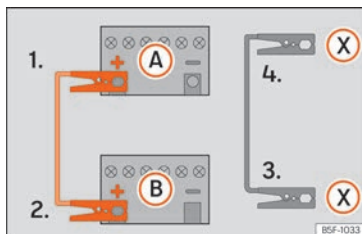

Fig. 55 Diagram of connections for vehicles with Start Stop system
- 4b. *In vehicles with a Start-stop system:* connect one end of the black jump lead (X) to a suitable ground terminal, to a solid piece of metal in the engine block, or to the engine block itself » » » Fig. 55.
5. Connect the other end of the black jump lead (X) to a solid metal component bolted to the engine block or to the engine block itself of the vehicle with the flat battery. Do not connect it to a point near the battery (A).